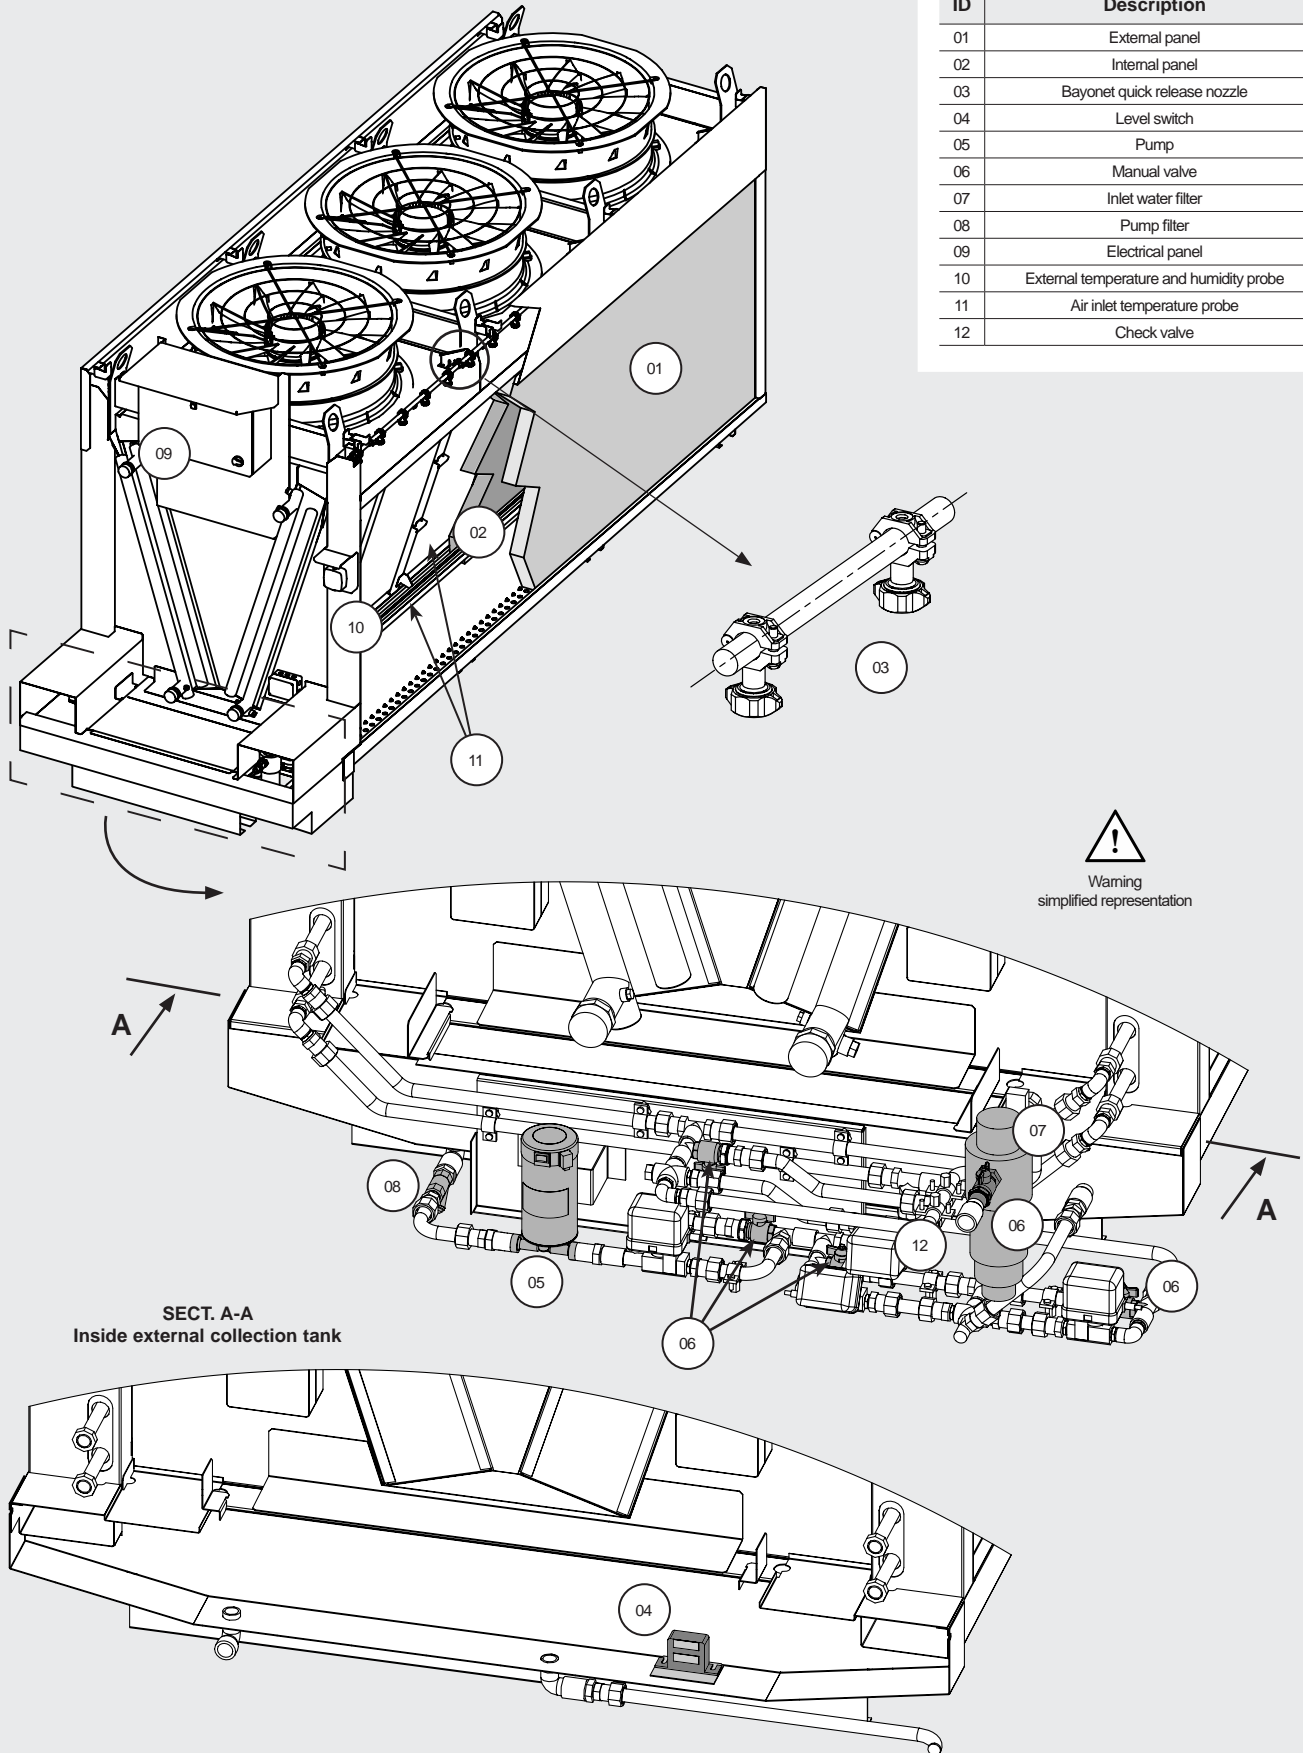

Figure 1
2.9.1 List of components: see Figure 1.